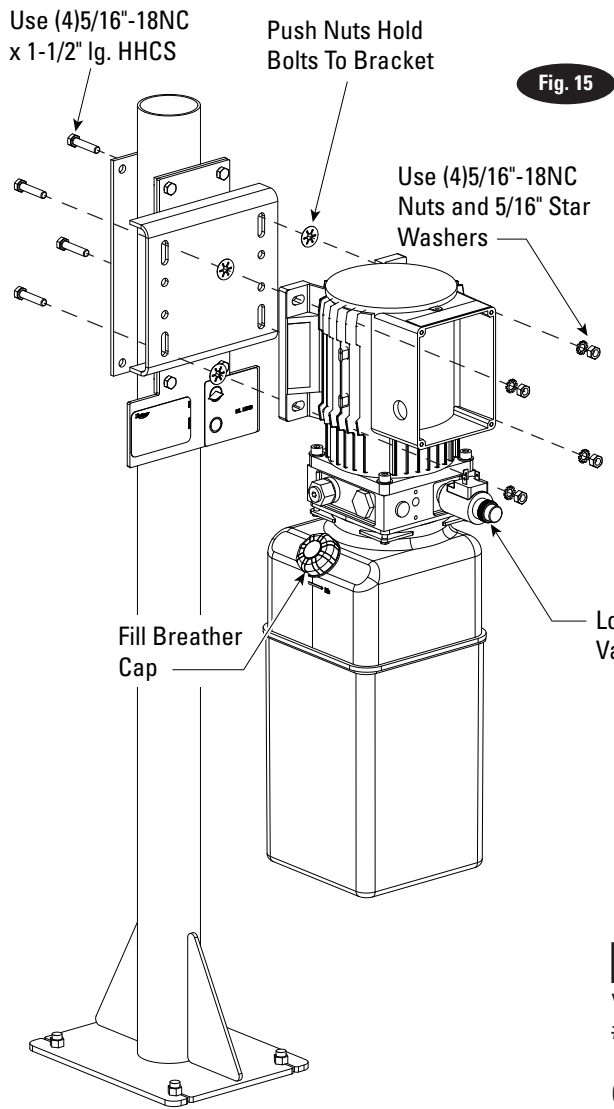

Fig. 15
**I.** Mount power unit, with motor up, to the power unit bracket and install (4) 5/16" nuts and lock washers, Fig.15.
**H.** Put (4) 5/16"-18NC x 1-1/2" HHCS through power unit bracket using push-nuts to hold in place, Fig. 15.